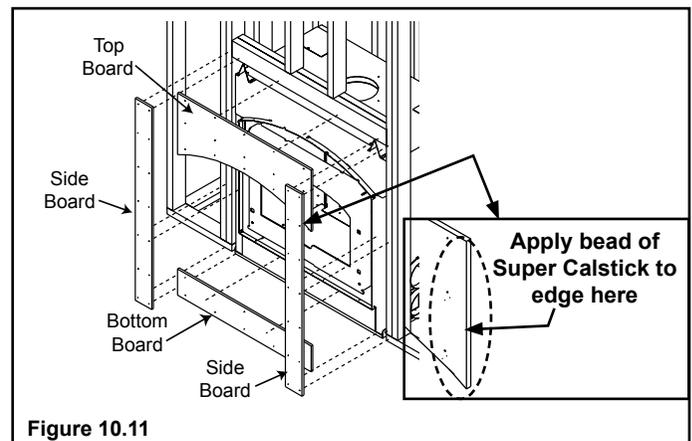

Figure 10.11
4. Using the Super Calstick, run a light bead (1/8 in. minimum) on the butt edges of the top board. See Figure 10.11